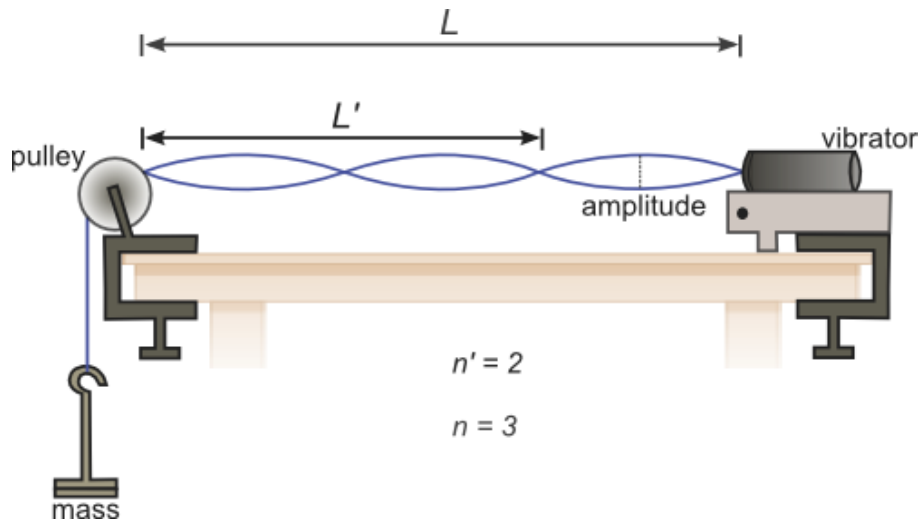

Figure 1
When the string vibrates in a standing wave pattern, the points with no vertical vibration are called nodes; the points where the string has the largest vertical displacement are called antinodes. The distance between two nodes is a half wavelength. If the ends of the string are fixed in position, the ends will function as nodes and the string must vibrate in a whole number of segments. If the string has only one segment, the length, L , of the string is equal to $\frac{1}{2}\lambda$, if it vibrates in two segments, L is equal to λ , if it vibrates in three segments then L equals $\frac{3}{2}\lambda$ (see Figure 1).
- 2 Since the node nearest the vibrator is distorted, this node and the first segment adjacent to the vibrator will not be considered when taking measurements. Thus L' will be the length of $n' = n - 1$ segments. Record the value n' . Measure, to the nearest mm, the distance L' between the first node beyond the vibrator and the point where the string contacts the pulley (see Figure 1). Record your data in Table 1.